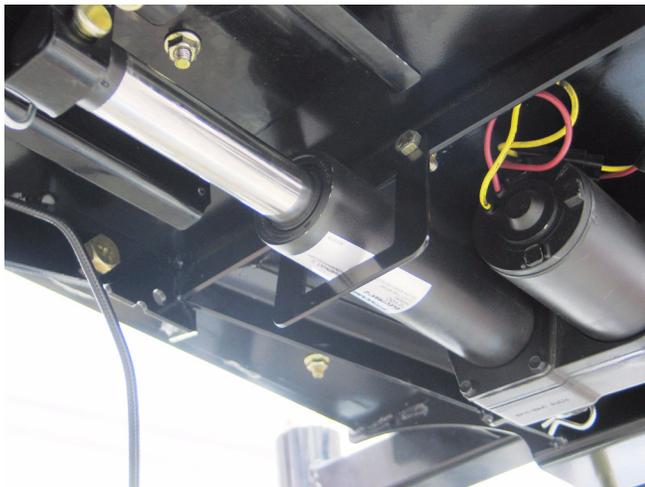

Figure 12.30
12.30. The lift actuator is supported by a separate bracket. See Figure 12.30.